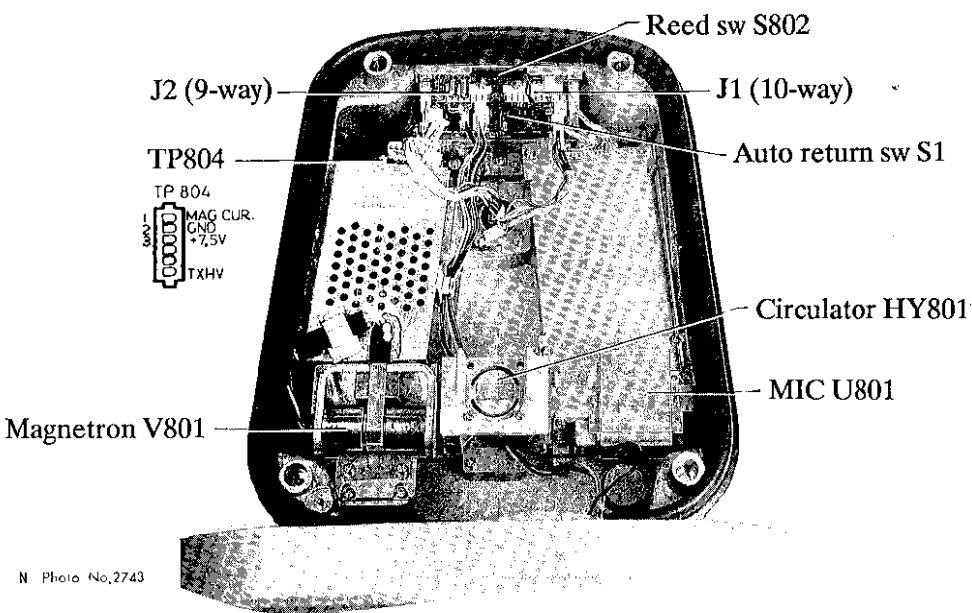

Fig. 5-5 Inside of Scanner Lower Housing
3. Connect a multimeter, set to 10VDC range, to pin #1(+) and #2(-) of TP804 on the MD-7277 modulator board. See Fig.5-5.
4. Operate the radar for transmission on 0.25nm range, and turn downward auto return switch S1 once. This switch is located on the INTERFACE board. See Fig.5-5.